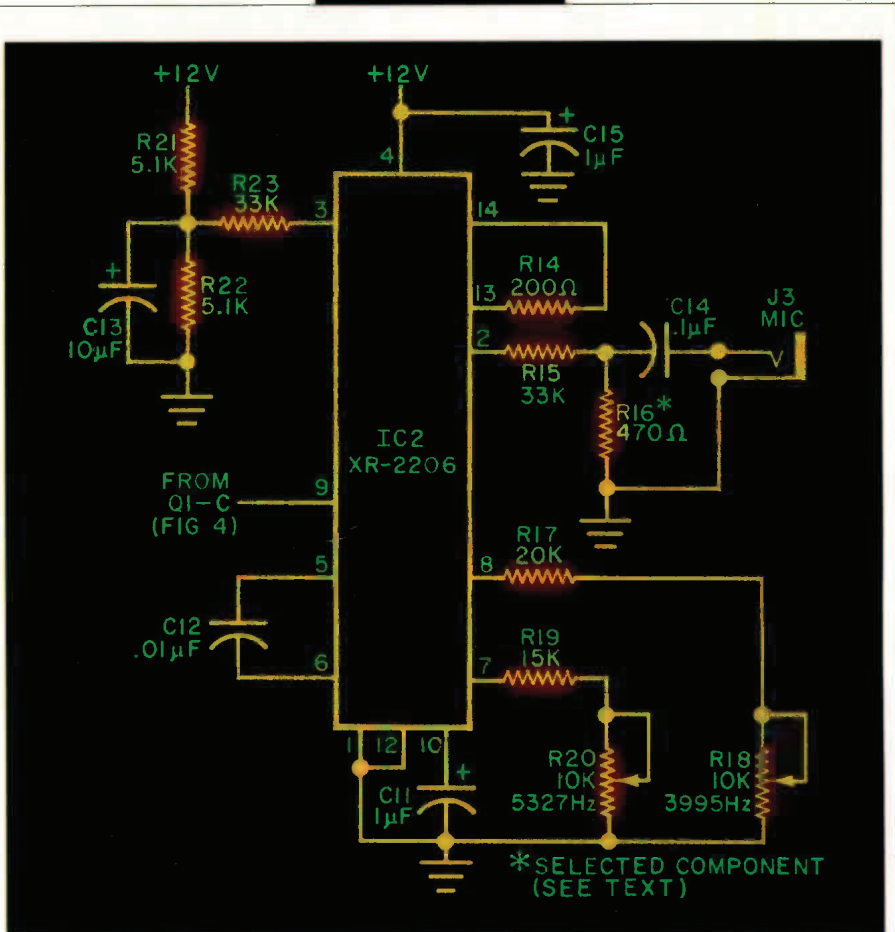

Fig. 5. Schematic of a circuit to remodulate the serial data.
**Bit-Copying Tapes.** It is a simple matter to make backup copies of any of your tapes using the cassette interface and the circuit shown in Fig. 5. This circuit simply remodulates the serial data stream from the demodulator, bit by bit, and consequently doesn't care if the program is BASIC, machine language, or even copy-protected. A second tape recorder "listens in" on J3 while the first recorder is playing the original program tape through J1 (Fig. 6).
of the modulator circuit in Fig. 5 be performed with a frequency counter. With the counter connected to pin 2 of IC2, short pin 9 to ground and adjust R18 for 3995 Hz. Remove the short from pin 9 and adjust R20 for 5327 Hz. (Note that the computer must be turned on to make these adjustments.) If you don't